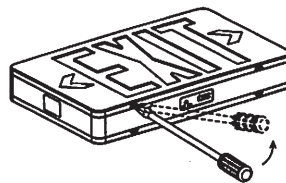

Fig 1
1. Open front cover by blade screwdriver (see Fig 1).